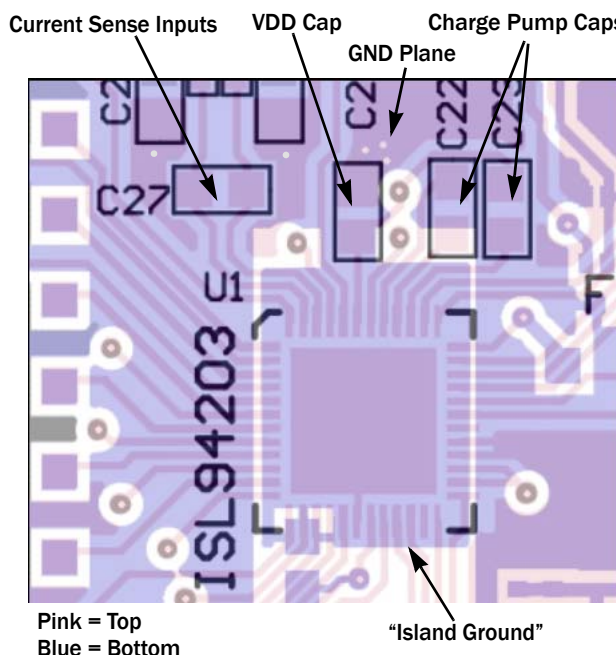

FIGURE 33. EXAMPLE 4-LAYER PCB LAYOUT FOR VDD BYPASS, CHARGE PUMP AND CURRENT SENSE
- An example PCB layout is shown in Figure 33. This shows placement of the VDD bypass capacitor close to the VDD pin and with a good ground connection. The charge pump capacitors are also close to the IC. The current sense lines are shielded by ground plane as much as possible. The ground plane under the IC is shown as an “island”. The intent of this layout was to minimize voltages induced by EMI on the ground